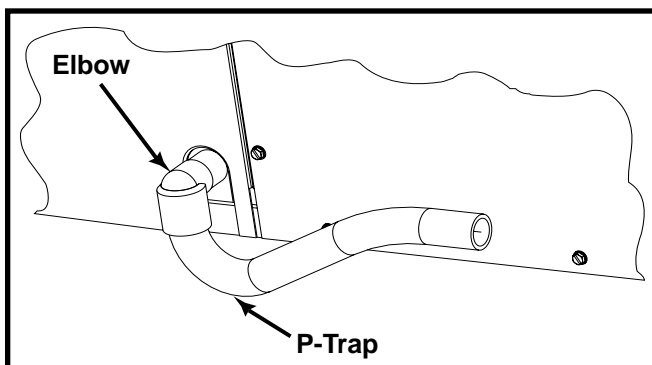
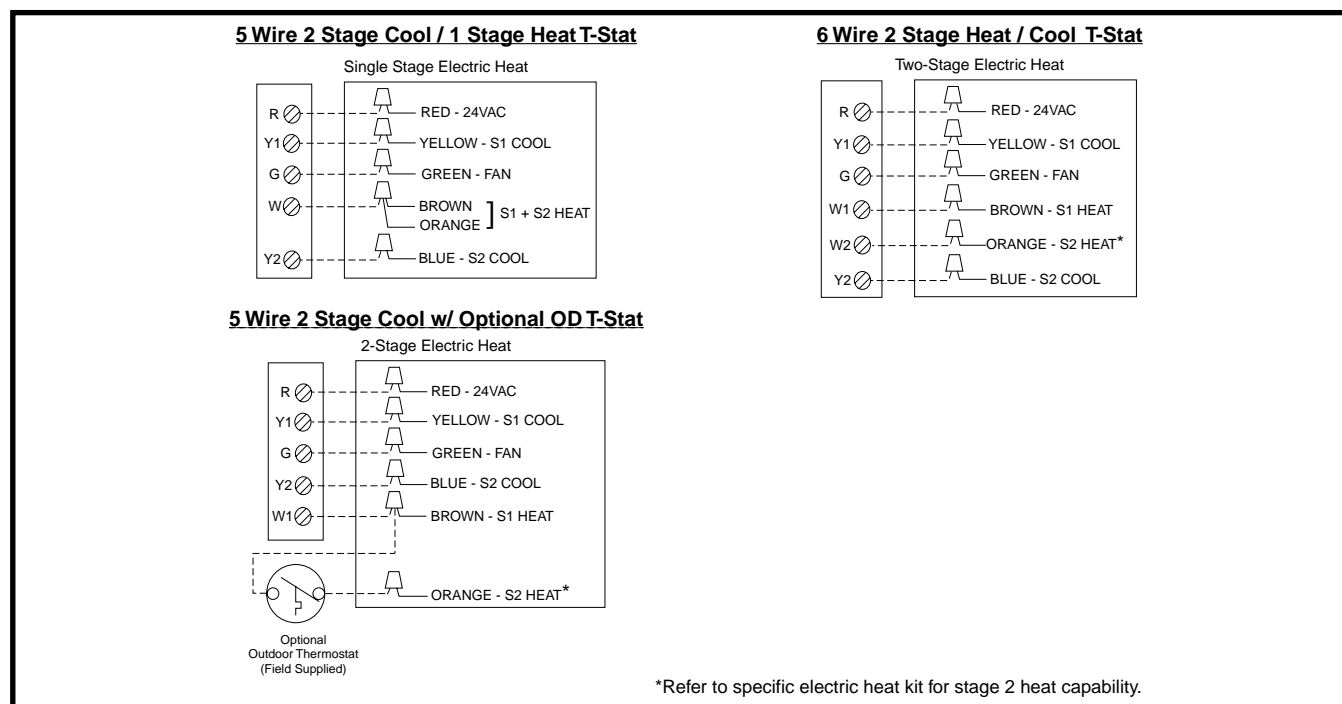

Figure 4. Drain Trap
Figure 6. Typical Wiring (Field Supplied) for 2-Stage Cool & 1 or 2-Stage Electric Heat
A 3/4" condensate fitting extends out of the side of the unit as shown in Figure 4. The drain trap (shipped in the electrical compartment), must be installed to prevent water from collecting inside the unit.
- The low voltage wires must be properly connected. Route 24V control wires through the sealing grommet (Figure 4, page 6) near the power entrance. Connect the control wires to the defrost board and blower relay wire (Figure 6). Recommended wire gauge and wire lengths for typical thermostat connections are listed in Table 2.
A 2 stage Cooling thermostat is recommended for this product. A single or two stage heating thermostat may be used depending on the optional accessories installed with the unit. Install a thermostat that operates in conjunction with the installed accessories. See Figure 6 for 5 or 6 wire Heat / Cool applications
2 Stage Heat with Single Stage Heating Thermostat - If a single stage heat thermostat is used and 2 stage heat is desired, an "optional" outdoor thermostat may be installed. Connect the "optional" outdoor thermostat between the W1 (brown) connection and orange wire in the outdoor unit. See Figure 6. Refer to the installation Instructions supplied with the outdoor thermostat for setup details.